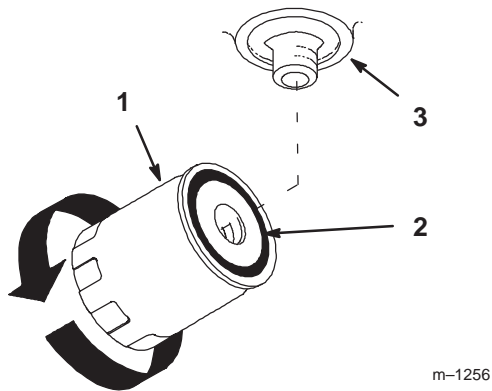

Figure 39
- Apply a thin coat hydro fluid to the rubber gasket on the replacement filter (Fig. 39).
- When fluid overflows filter turn the oil filter clockwise until the rubber gasket contacts the filter adapter, then tighten the filter an additional 1/2 turn (Fig. 39).